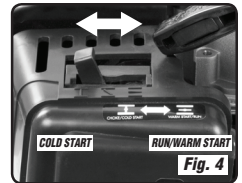

Fig. 4
3. Move the Choke Lever to the "COLD START" position (see Fig. 4).
6. After engine starts and runs for 10-15 seconds, move choke lever to "Run/Warm Start" position (see Figure 4).